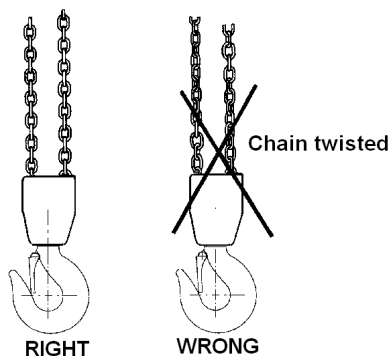

Fig. 3 The chain must not be twisted
- The load chain must not be kinked or twisted. With two-fall or multi-fall hoists there is a risk of the chain twisting if the bottom hook assembly ends up looped through the chain sling – usually during refitting or moving the hoist between work stations. See Fig 3.